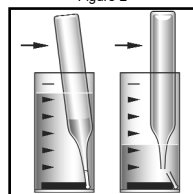

Figure 3
For CHEMetrics photometers, follow the **Setup and Measurement Procedures** in the operator's manual. For spectrophotometers, set the wavelength to 505 nm. A sealed ZERO ampoule is supplied in this kit for zeroing when the sample is colorless and not turbid. For improved accuracy with colored or turbid samples, Sample Zeroing Accessory Pack, Cat. # A-0504 is recommended. Using the sample cup, snap the tip of the A-0504 ampoule in the sample (see figure 3 below). Invert the ampoule to mix. Dry the ampoule and use it in place of the supplied ZERO ampoule to zero the instrument.
3. Place the Vacu-vial ampoule, tip first, into the sample cup. Snap the tip. The ampoule will fill leaving a bubble for mixing (fig 3).